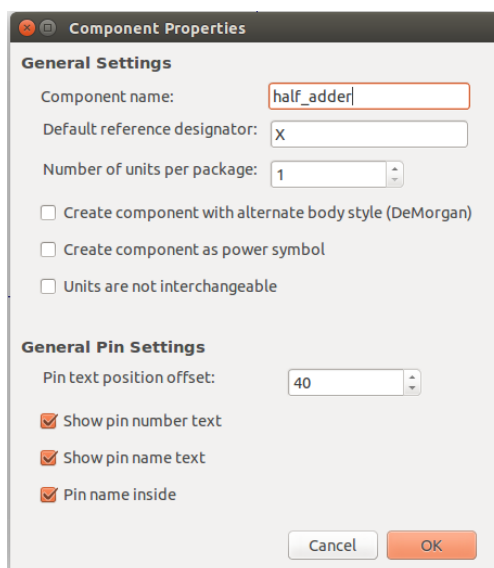

Figure 8.7: Creating New Component
3. Click on create a new component with reference X as shown in Fig. 8.7